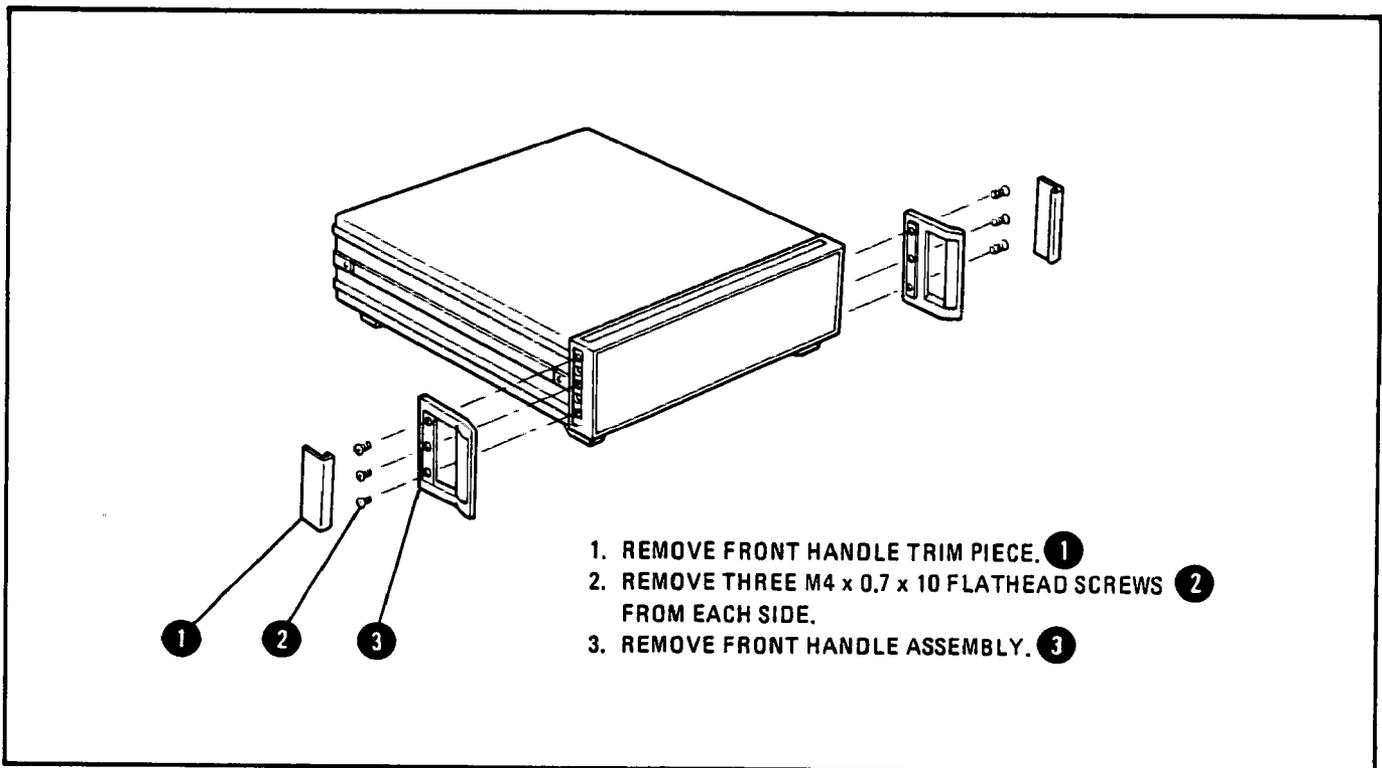

Figure 12. Front Handle Removal
1. Remove front handles (see Figure 12) and side strap handles.